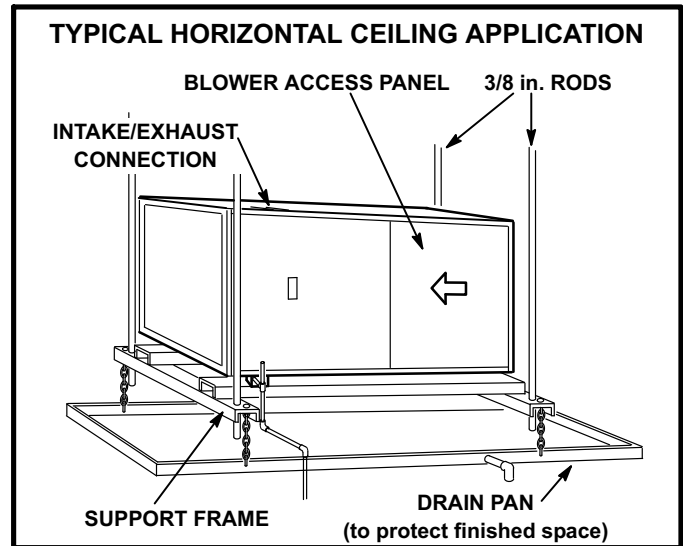
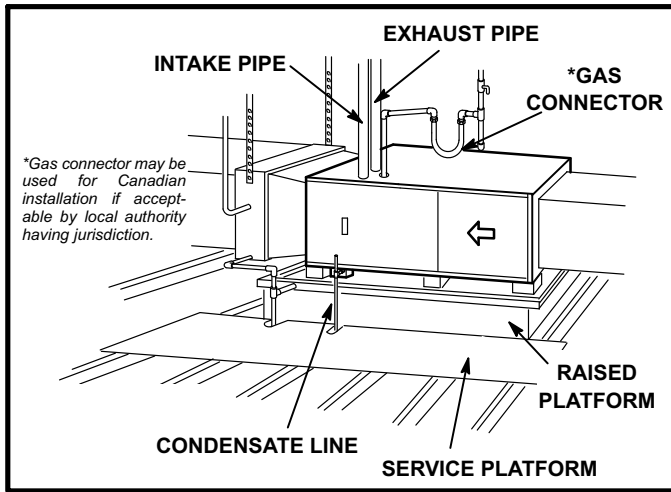

FIGURE 18
FIGURE 19
The G61MPV may also be installed as a unit heater. Either suspend the furnace as shown in figure 18, or install the furnace on a field-fabricated raised platform. The unit must be supported at both ends and beneath the blower deck to prevent sagging.
- 5 - Mount unit on support frame as shown in figure 18.
- 7 - If unit is suspended above finished space, hang the field-provided drain pan below the support frame as shown in figure 18. Leave 5-1/2 inches for service clearance below unit for condensate trap.
- 4 - Set unit in drain pan as shown in figure 19. Leave 5-1/2 inches for service clearance below unit for condensate trap.
The G61MPV may also be installed as a unit heater. Either suspend the furnace from roof rafters or floor joists, as shown in figure 18, or install the furnace on a field-fabricated raised platform, as shown in figure 19. The unit must be supported at both ends and beneath the blower deck to prevent sagging. The condensate trap must be installed where it can be serviced at a later date.